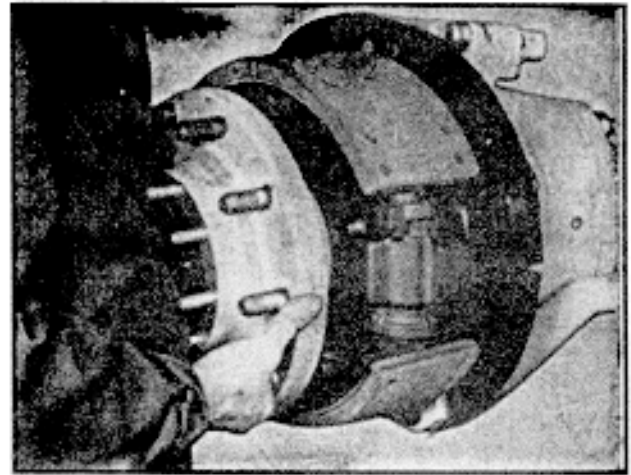

Fig. 17
9. Lift the hub (or hub and drum assembly) off the spindle (See fig. 17) using care to avoid damage to the bearing surfaces and to the threads. Wipe off any oil that may have reached the brake shoe before it reaches the lining.